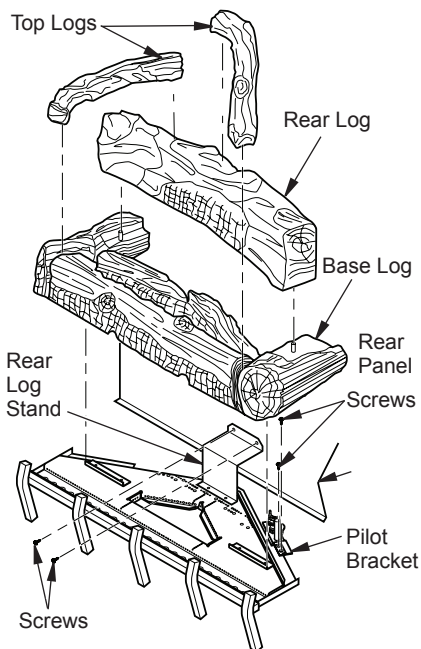

Figure 54 - Removing Logs and Burner Assembly
1. Remove top, rear and base logs, see Figure 54, page 32.
2. Remove two screws holding pilot bracket to rear of burner pan. (see Figure 54, page 32).
3. Remove two screws holding rear log stand to rear panel of firebox (see Figure 54, page 32).